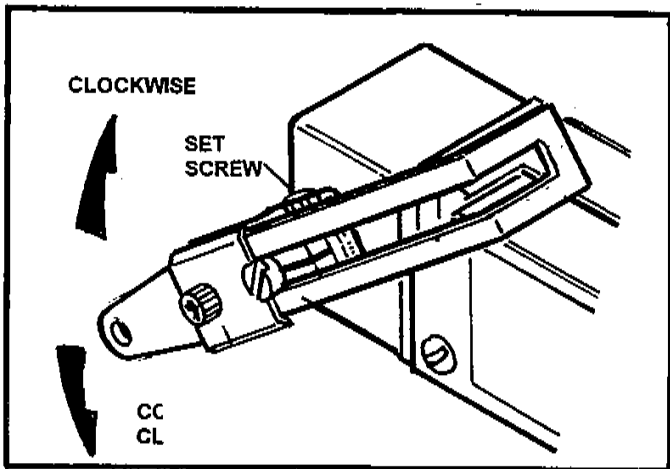

FIGURE 39
3. (See figure 39) and loosen set screw on actuator arm. Reposition this arm by either rotating it clockwise or counterclockwise depending where the micro switch clicked "off" during the conveyor flaps upper travel.
4. When the click 'off' occurs between the 6 ½" to 7" limit, tighten set screw and connect linkage. (See figure 39).